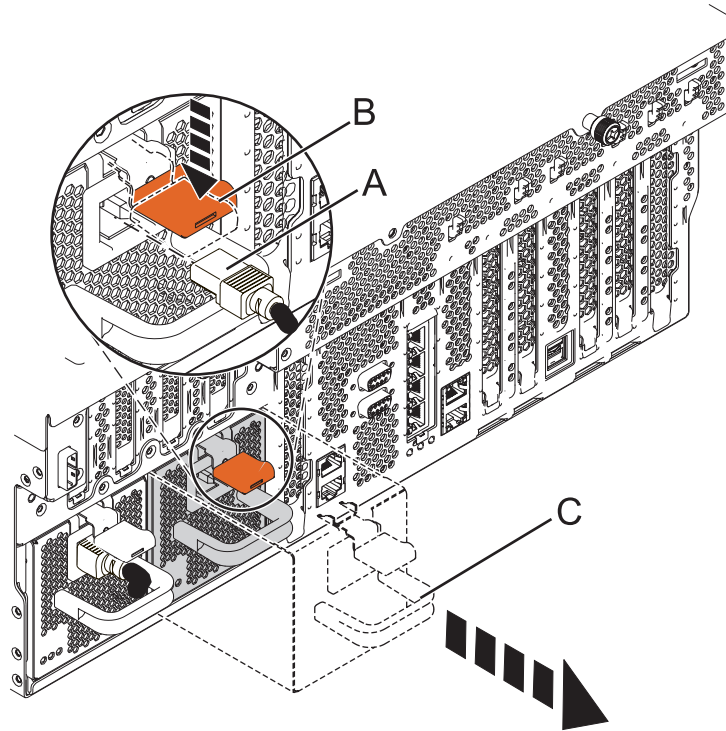

Figure 5. Removing the power supply from a rack-mounted model
6. Disconnect the power cable (A) from the front of the power supply as shown in Figure 5 on page 7.